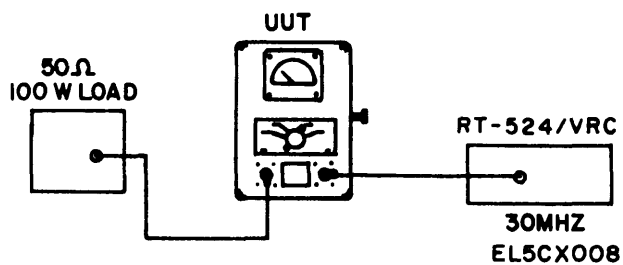
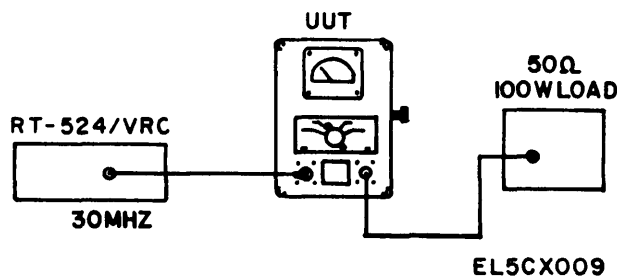

Figure 8-1. Troubleshooting test, forward power.
Figure 8-2. Troubleshooting test, reverse (reflected) power.
Troubleshooting the TS-3754/U consists of one of two test setups (figs. 8-1 and 8-2), depending on the type of test being performed, and the use of tables 8-1 and 8-2. Figure 8-1 illustrates the test setup when checking the TS-3754/U under forward wave operation. Figure 8-2 illustrates the test set up when checking the TS-3754/U under reflected (reverse) wave operation. Table 8-1 provides the test settings required for each of the four troubleshooting procedures while table two provides the troubleshooting chart for location of
d. Using either figure 8-1 or 8-2 for the test setup required (forward or reverse), connect the TS-3754/U to the test transmitter and dummy load.